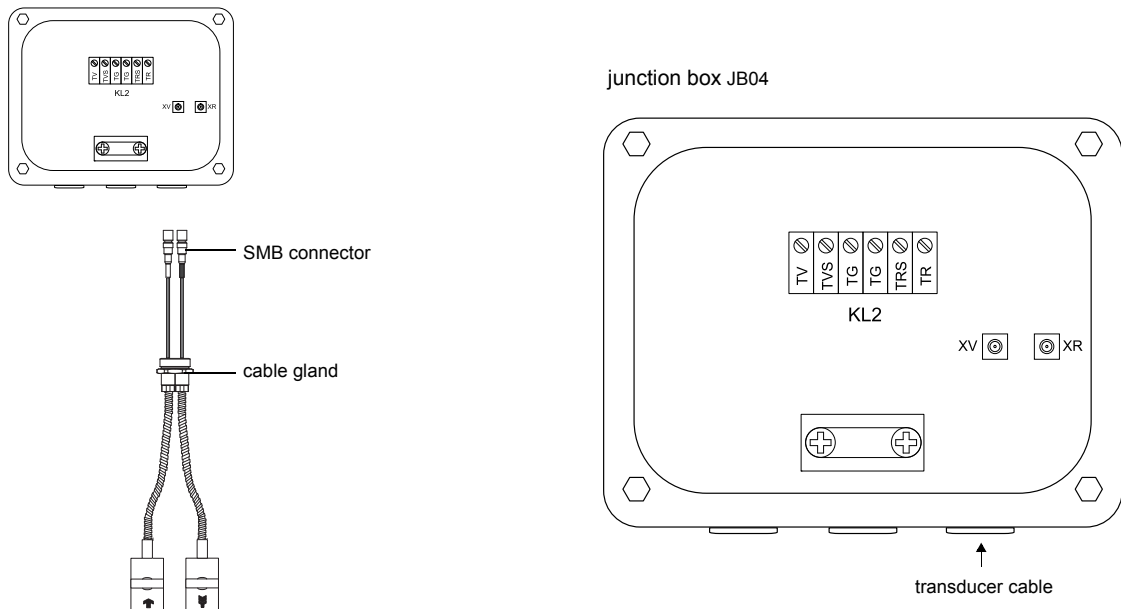

Fig. 6.19: Connection of the transducer cable with SMB connectors
- Remove the right blind plug for the connection of the transducer cable (see Fig. 6.19).
- Connect the SMB connectors to the sockets of the junction box (see Fig. 6.19 and Tab. 6.15).